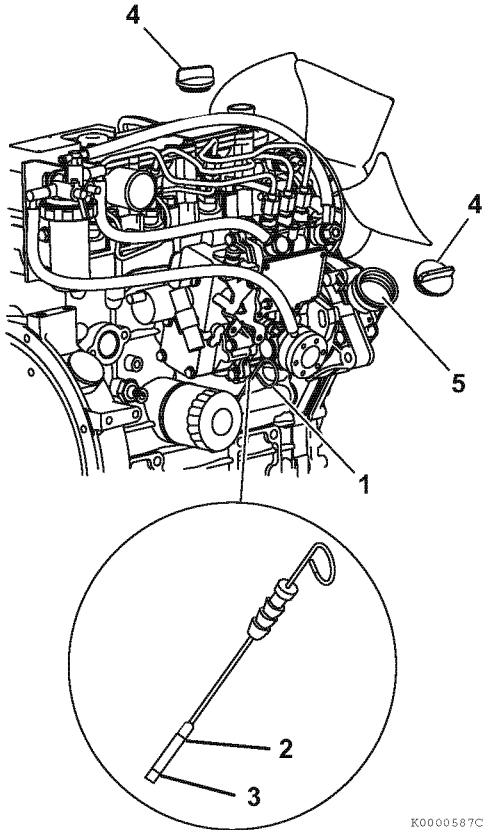

Figure 4-6
2. Remove dipstick (**Figure 4-6, (1)**) and wipe with clean cloth.
4. Remove dipstick. The oil level should be between upper (**Figure 4-6, (2)**) and lower (**Figure 4-6, (3)**) lines on the dipstick.
2. Remove oil cap (**Figure 4-6, (4)**).
3. Add indicated amount of engine oil at the top or side engine oil filler port (**Figure 4-6, (5)**).
6. Replace oil cap (**Figure 4-6, (4)**) and hand-tighten. Over-tightening may damage the cap.